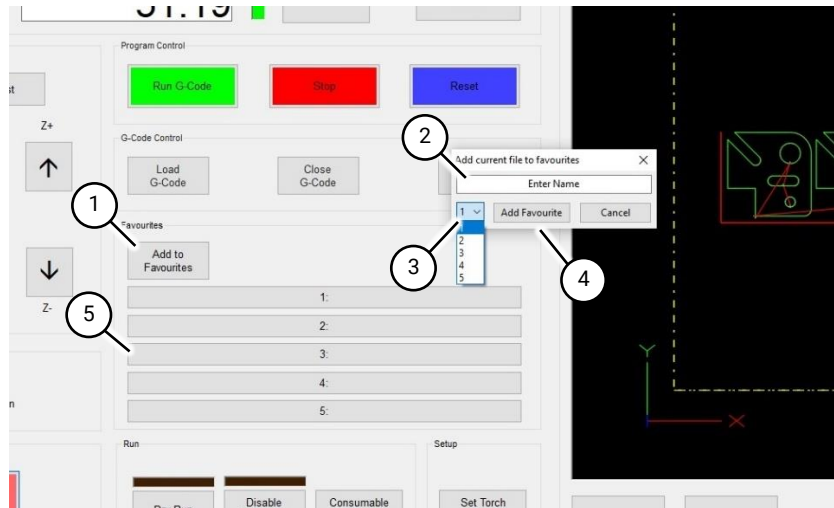

Fig 71 Adding files to favourites
1.1 Load G-Code file and then press Add to favourites button (Fig 71 (1)).
1.2 Rename the file as required (Fig 71 (2)).
1.3 Select the order in which the file will appear in the list of favourites (Fig 71 (3)).
1.4 Press the Add Favourite button (Fig 71 (4)).
1.5 To recall a favourite, press the appropriate number in the favourites list (Fig 71 (5)).